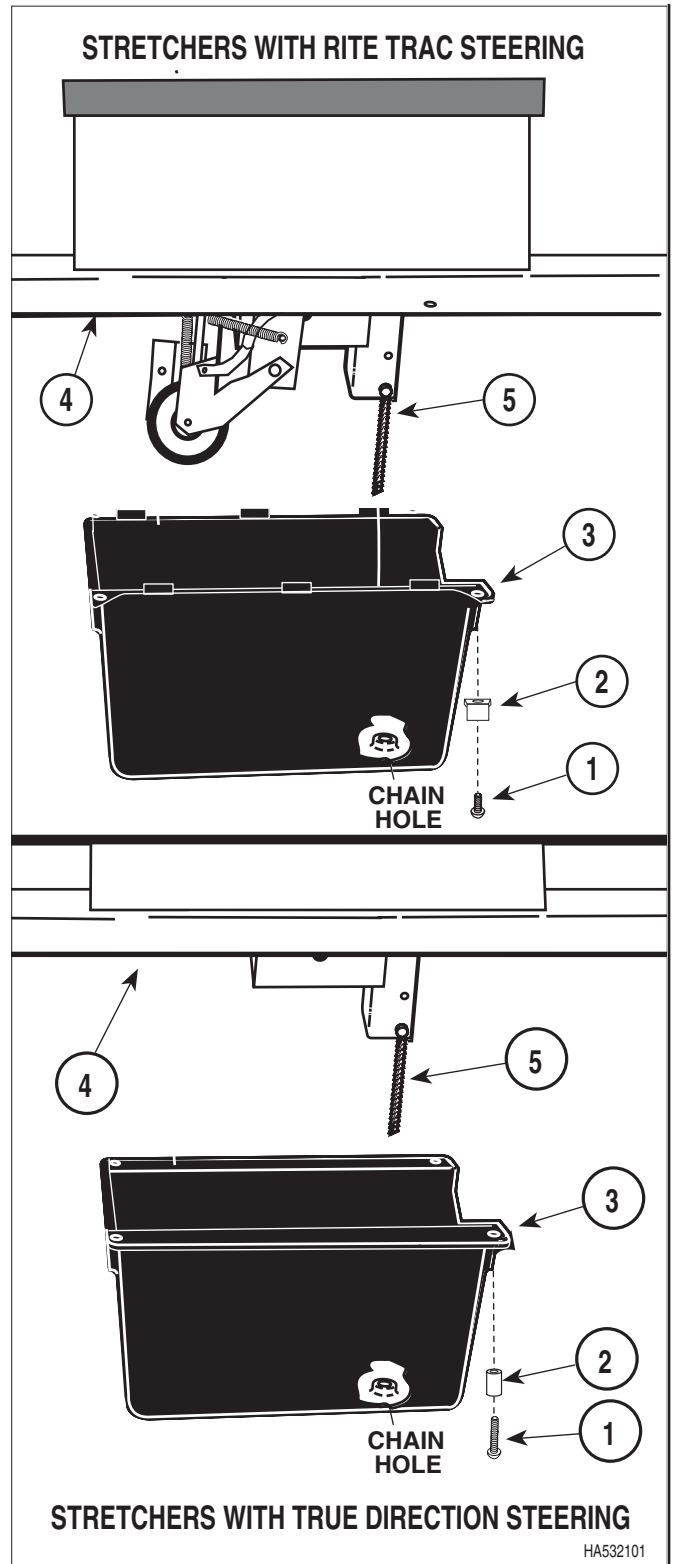

Figure 4-1. Lower Cover Removal / Installation
- (1) Remove four screws (1, Figure 4-1), spacers or retainers (2), and lower cover (3) from chassis (4).